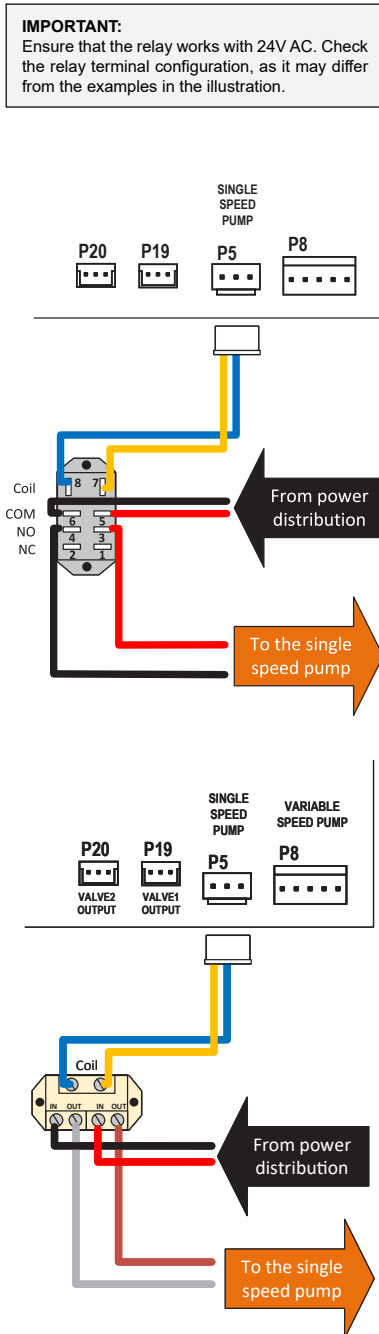

Figure 137. 24VAC Relay Wiring
4. Use the harness adapter supplied in the accessory bag labeled as “single-speed pump” to connect the field-supplied relay to the terminal of the control board marked as “PUMP” [P5]. Connect the other end of the harness to the coil terminals of the relay, as shown in **Figure 137**.
5. Connect the wires coming from the pump and the power distribution box to the relay contact terminals, as shown in **Figure 137**.